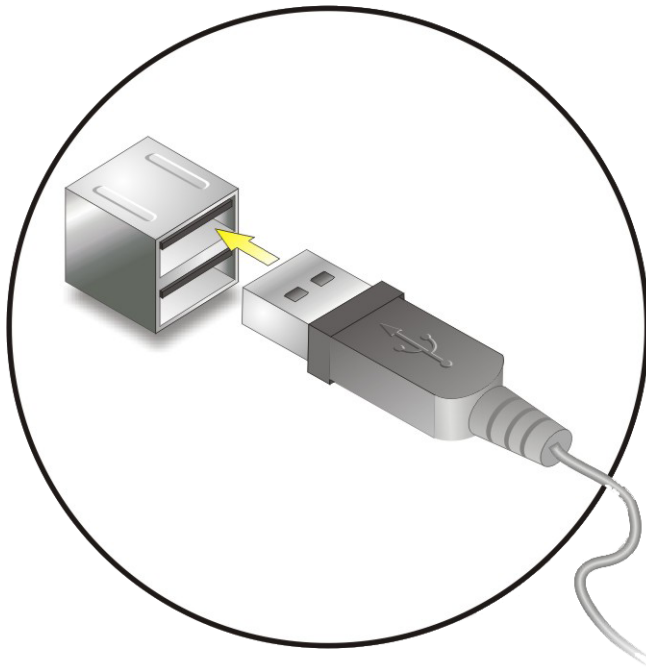

Figure 5-17: USB Connector
Step 2: Insert a USB Series "A" plug. Insert the USB Series "A" plug of a device into the USB Series "A" receptacle on the external peripheral interface. See **Figure 5-17**.